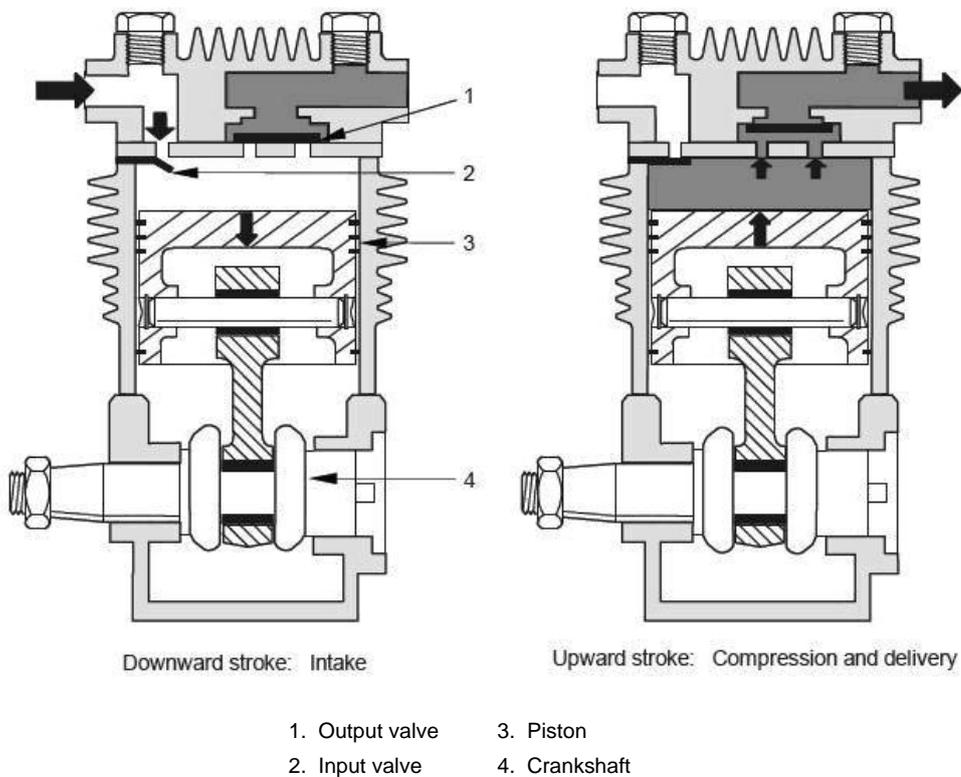

Figure 29 Air Compressor
**78. Air Compressor.** The air-cooled, reciprocating-piston compressor (Figure 29) is driven by a belt from the crankshaft pulley and generates high-pressure air for the truck pneumatic devices as follows: